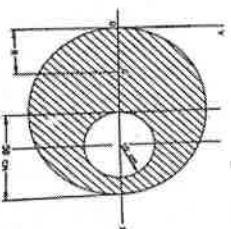

Figure 3
- 6 Determine the centroid of the remaining portion of a circular sheet of metal of radius 50cm when a hole of 10cm radius is taken out from the centre of the circular disc along its horizontal diameter as shown in figure 3.